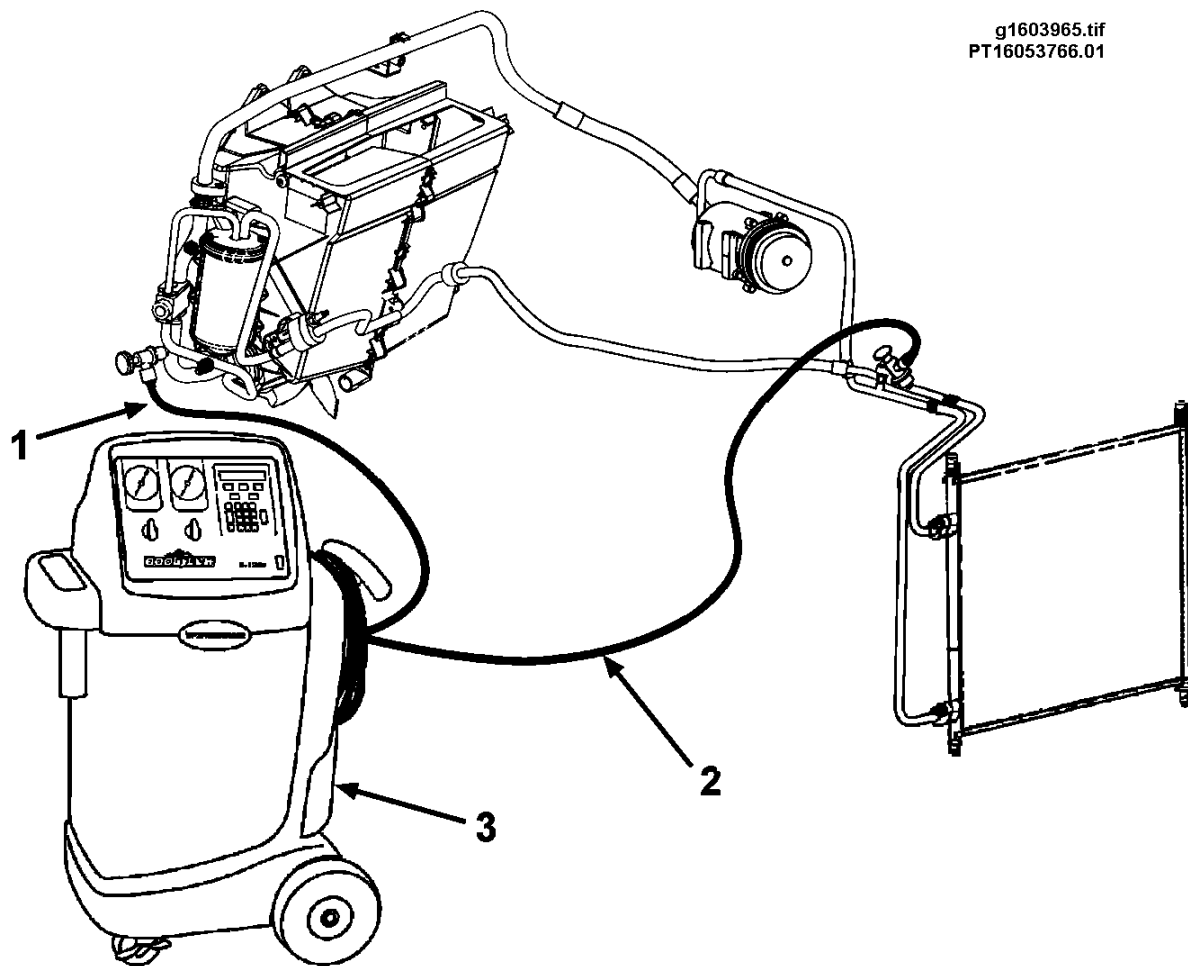

Figure 65 Typical Equipment Hookup for Servicing the System
Refer to Figure 65.
4. Connect the recovery station to the system as follows (refer to Figure 65):